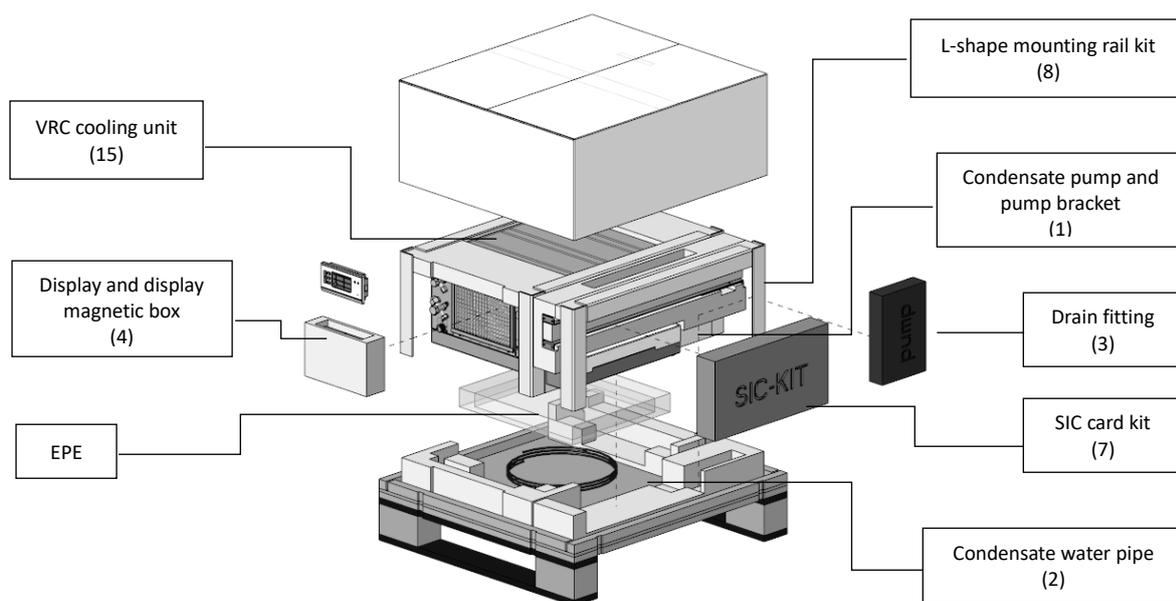

Figure 2-7 Unpacking Indoor Unit
- The unpacking of the indoor unit from the packing materials is shown in **Figure 2-7**. Move the equipment of the assembled package to an open, firm leveled ground in the vicinity of the predetermined installation site.